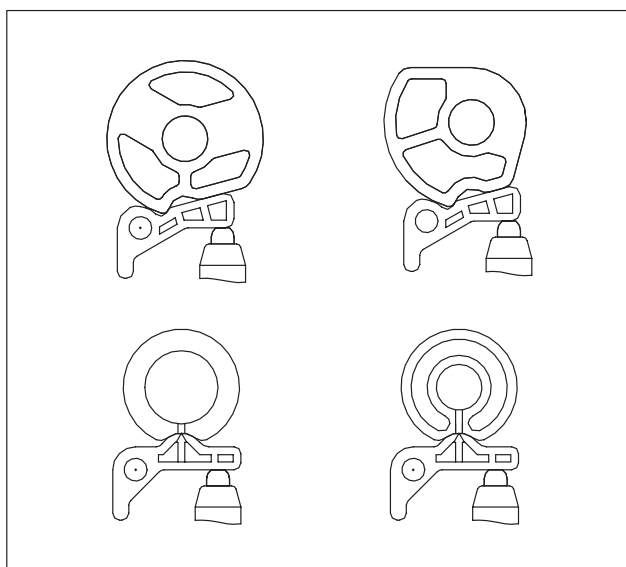

Fig. 4 Aligning the control discs
- ❶ Replace the control disc and align it together with the switch and base plate, with the guard closed (Fig. 4).